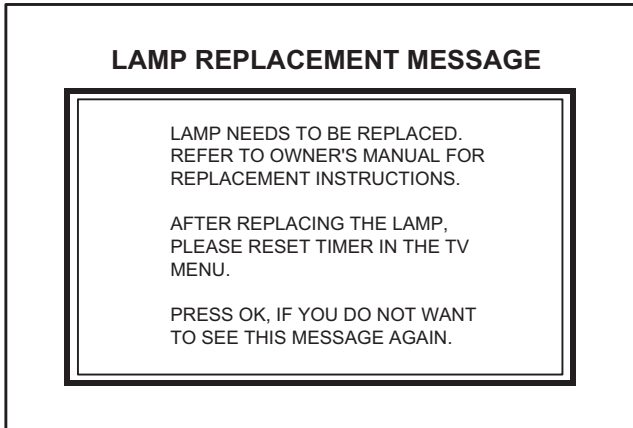

Fig.1
- (1) The lamp replacement message will appear when need to change the lamp. After replace the lamp, need to reset the timer which is built into TV.
- (2) Lamp use time can be check at the lamp message MENU. If lamp use time exceeds **5000 hours**, the message of Fig.1 will be displayed on a screen.
- (3) If Fig.1 message appears when turn the TV on, need to replace the lamp.
- (4) Use the lamp timer reset only after replacing the lamp.